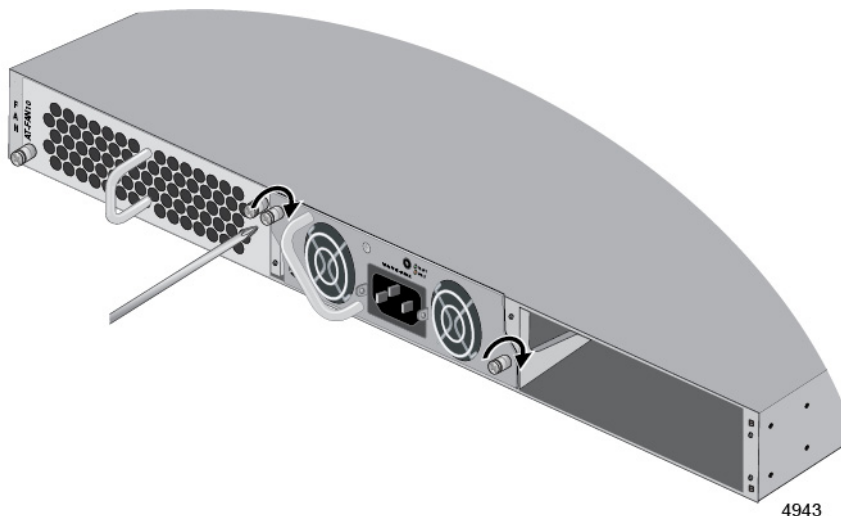

Figure 21. Tightening the Captive Screws on the Power Supply
- Secure the power supply to the switch by tightening the two captive screws with a cross-head screwdriver. Refer to Figure 21.